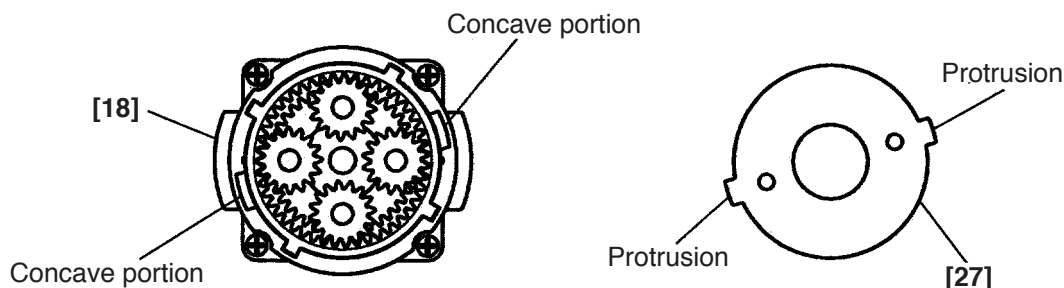

Fig. 9
- ⑥ Fit the protrusion of Washer (B) [27] in the concave portion of the Rear Case [18] and turn it clockwise viewing from the armature until it contacts the Rear Case [18] (see Fig. 9).